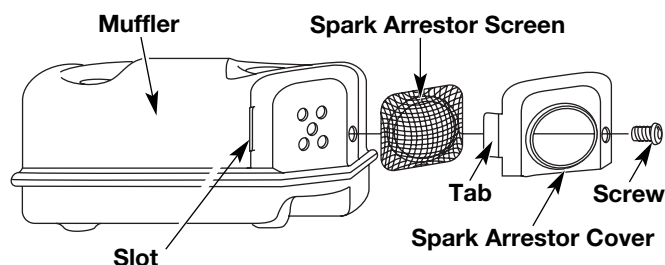

Fig. 40
2. With a flat blade screwdriver or Torx T-20 bit, remove the screw attaching the spark arrestor cover to the muffler (Fig. 40).